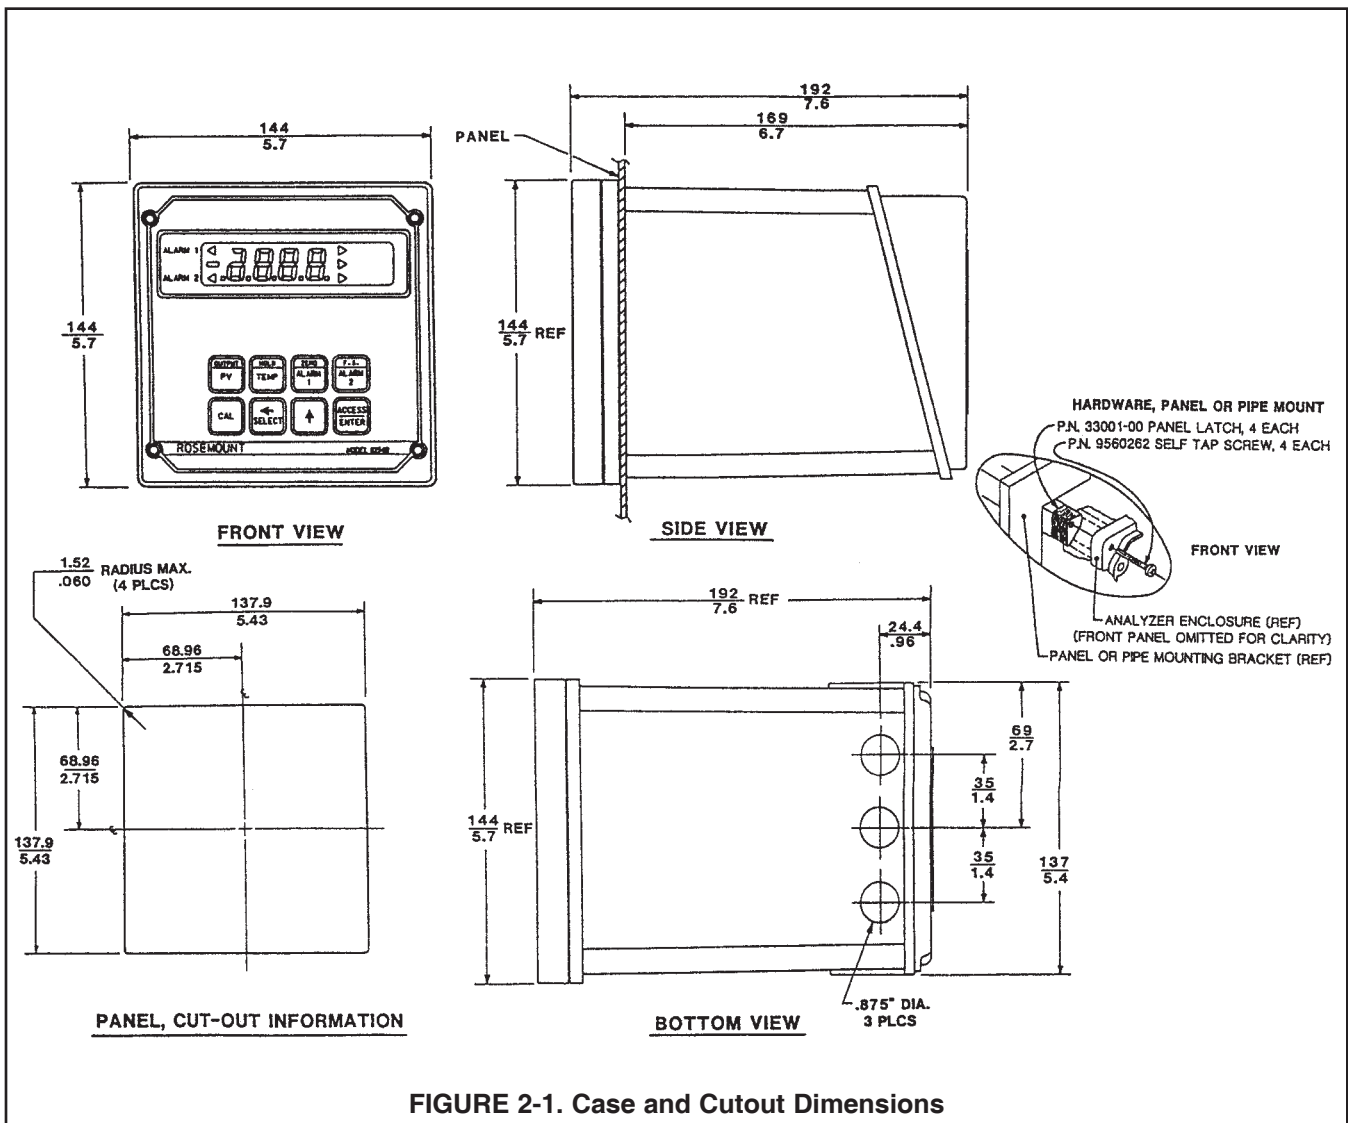

FIGURE 2-1. Case and Cutout Dimensions
2.3.1 Panel Mounting (standard). The Model 1054B is designed to fit into a DIN standard 137.9 mm (5.43 in.) x 137.9 mm (5.43 in.) panel cutout. See Figure 2-1 for case and cutout dimensions.